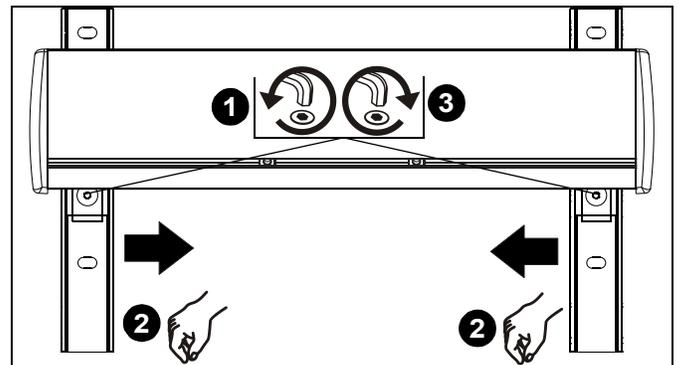

Figure 2
1. Loosen two flat head cap screws on projector mount wall bracket (U). (See Figure 2)
2. Slide wall bracket uprights to corresponding width of studs. (See Figure 2)
3. Tighten two flat head cap screws on wall bracket (U). (See Figure 2)